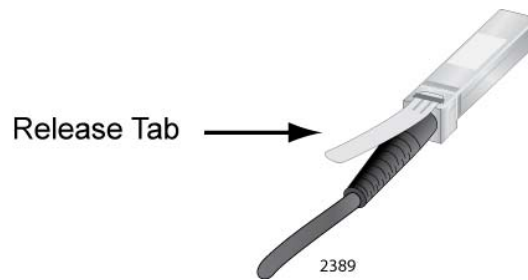

Figure 93. Release Tab on the AT-SBx81XS6 Line Card
2. Orient the connector on the AT-SP10TW cable so that the release tab is on top, as shown in Figure 93 on page 155.